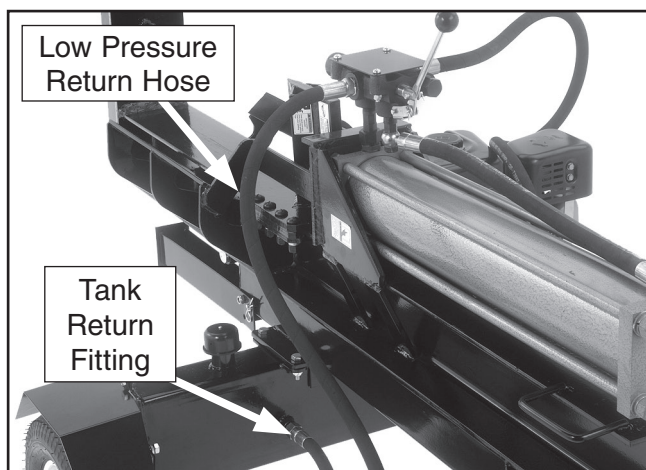

Figure 17. Low pressure hose and tank fitting.
26. Remove the plastic cap from the tank return fitting (**Figure 17**), oil and install an 11 x 2.4mm O-ring on the end of the fitting.
27. Using a screwdriver, unthread the plastic plug from the low pressure return hose (**Figure 17**).
28. Install the low pressure return hose onto the tank return fitting (**Figure 17**), making sure the O-ring stays in place.